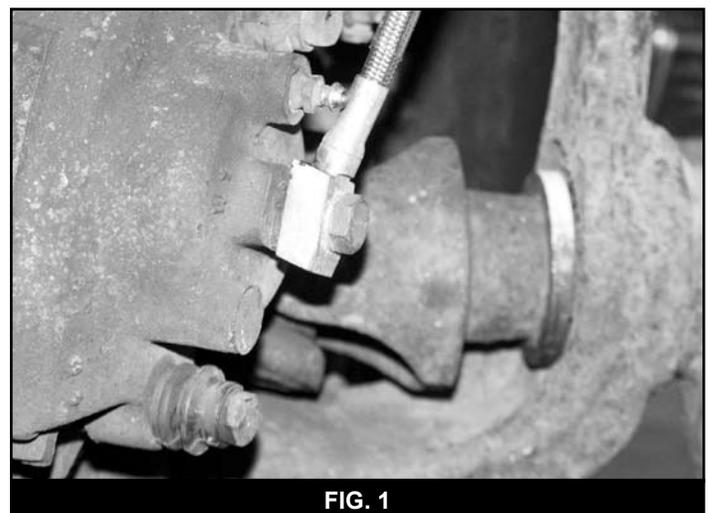

FIG. 1
9. Ensure that the old crush washer is removed from the caliper and that the brake line mounting surface is clean. Attach the new brake line to the caliper using two new crush washers on each side of the hose fitting and the OE banjo bolt. Tighten the banjo bolt to 20 ft-lbs. (Fig. 1)